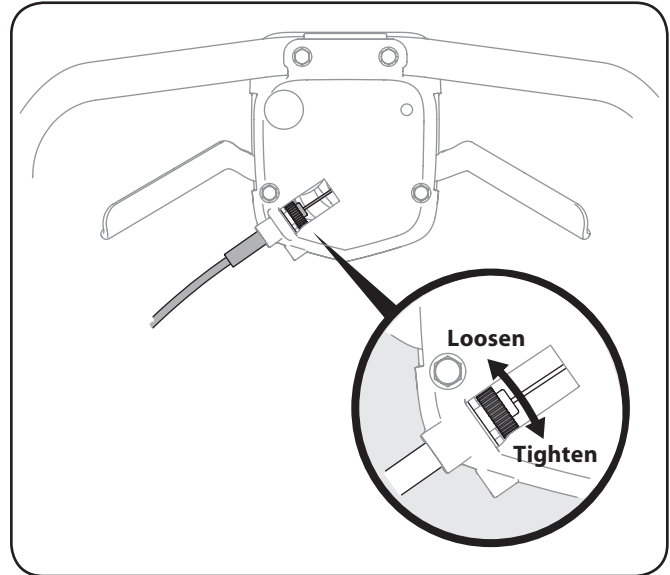

**Figure 3-12**
1. Remove wing nuts and carriage bolts from handle. See Figure 3-12.
2. Position the handle in one of the three positions that is most comfortable. See Figure 3-12 inset.